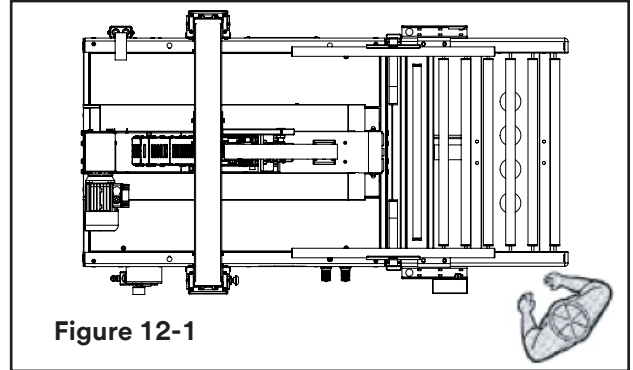

Figure 12-1
12.1 Operator's Working Position and Operational Flow (Figure 12-1).